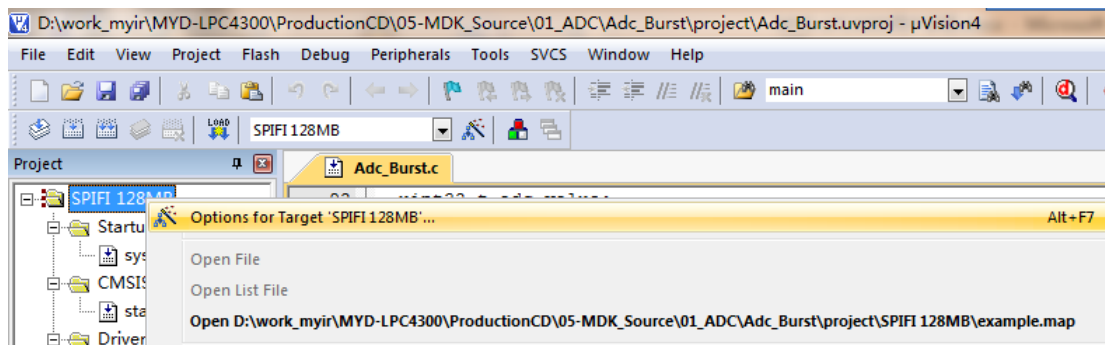
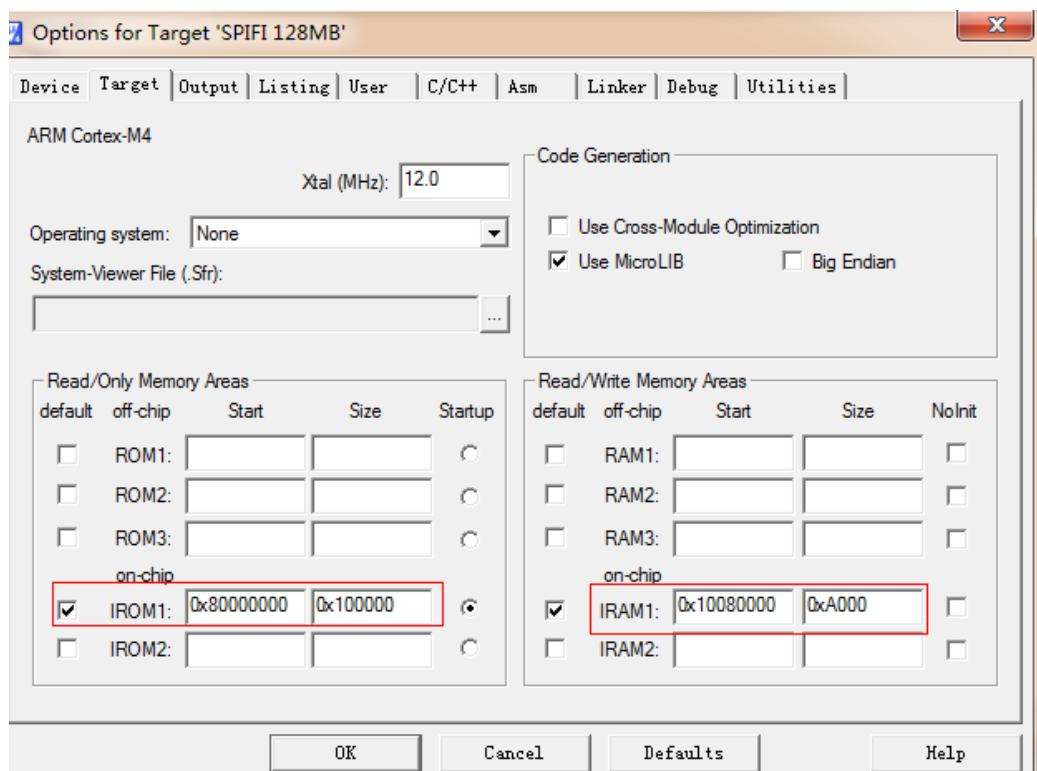

Figure 3-1
Figure 3-2
(1) Select project and click right button, then select “Options for Target ‘XXX’” (XXX can be the components listed in Table 3-3, here take “SPIFI 128MB”for an example. Refer to figure 3-1. The Setting window is shown in figure 3-2: